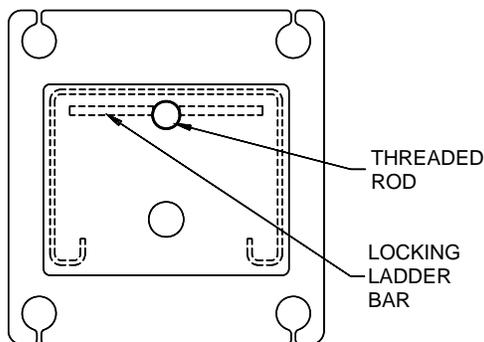

**Fig 6 – Final Runway Positioning**
- 9) Check the layout of the lift in the bay. **(This is the last opportunity to reposition the lift. If there is any question about where the front column anchors or power unit are going to end up, complete steps 21 - 24 first and come back to this step).** Adjust the position of the runways so the distance from power side jack rail to idler side jack rail is the same at the front and the rear and the diagonal measurements from the front tip of one rail to rear tip of the opposite rail are within  $\frac{1}{4}$ ", **Fig 6.**
- 28) Recheck the four measurements from **Fig 6**.